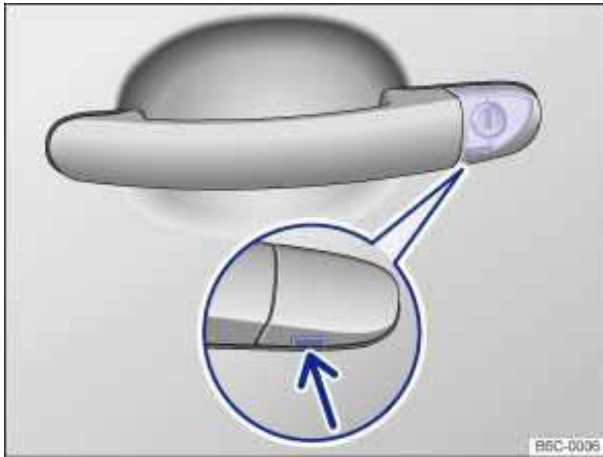

Fig. 130 Door handle on driver door: Concealed lock cylinder.
- Insert the key bit from below into the opening of the cover cap on the driver door ⇒ fig. 130 (arrow) and lift the cover cap off. Grasping the door handle and pulling slightly makes it easier to remove the cap.